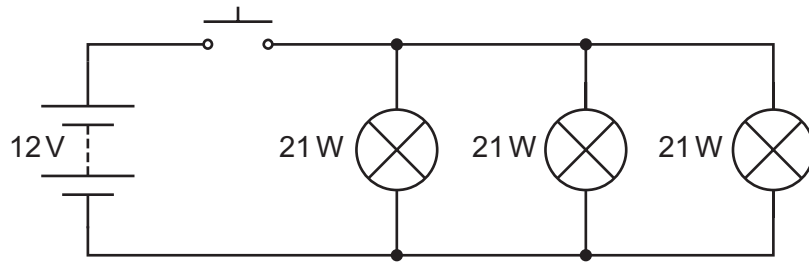

Fig. 11.3
- (b) Fig. 11.3 shows a circuit for the brake lights on a car.